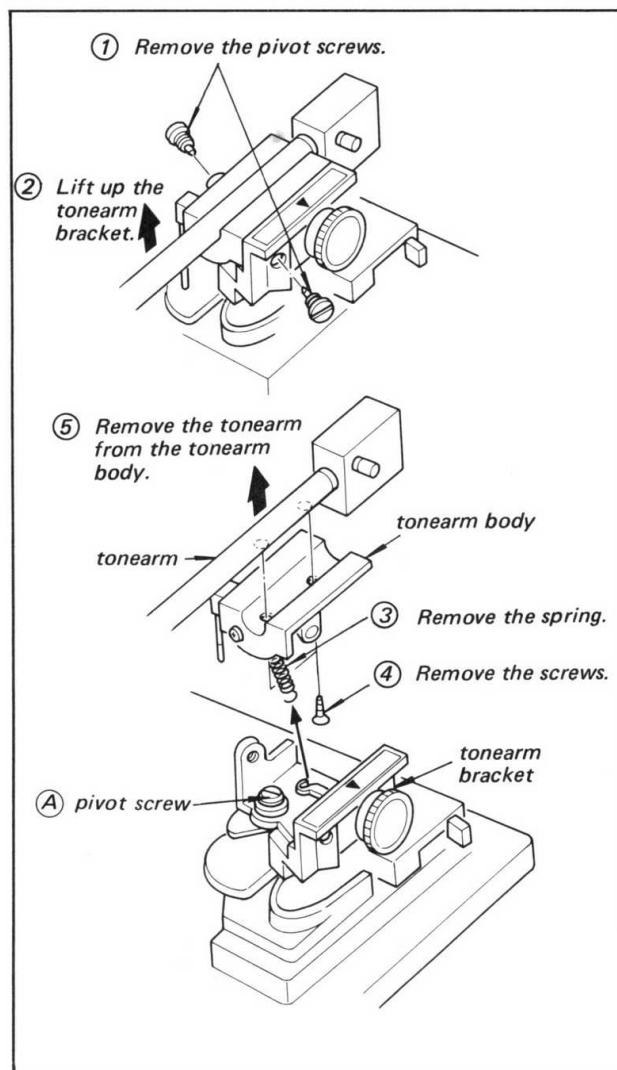

Fig. 1-4. Tonearm replacement
3. See Fig. 1-4 ( ① ~ ⑤ ).
2. Remove the tonearm bracket from the tonearm lever by taking out the pivot screw (A) shown in Fig. 1-4.